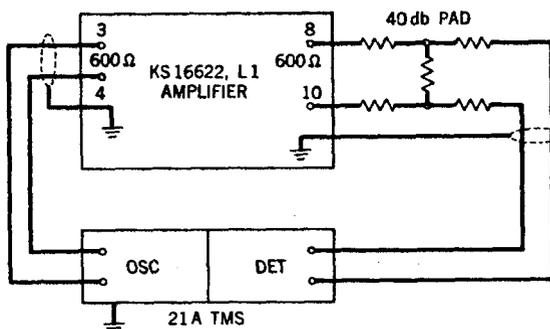

Fig. 1 - Test Setup for Gain-Frequency Test
5.01 The test setup for measuring the gain-frequency response is shown in Fig. 1. Chart I outlines the step procedure to be followed when making the test. The procedure may vary slightly depending on the testing equipment used.
2	Connect circuit as shown in Fig. 1.
7	Without changing output of OSC, reconnect circuit as shown in Fig. 1.